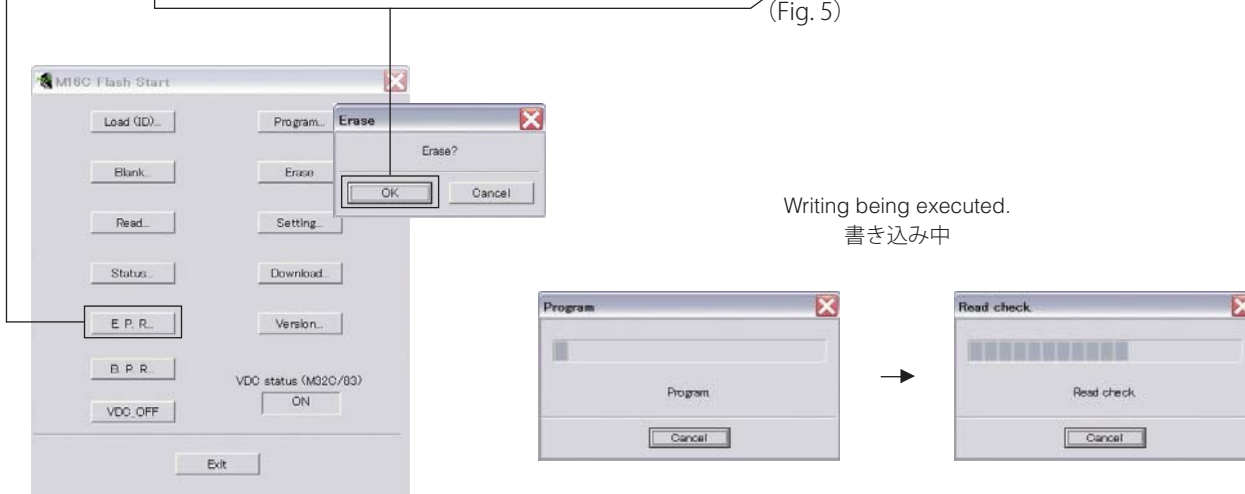

Fig. 5
6. Click [E.P.R.], then the “Erase” screen appears. (Fig. 5)
す。(Fig. 5)
7. Click [OK] to start writing. (Fig. 5)
(Fig. 5)